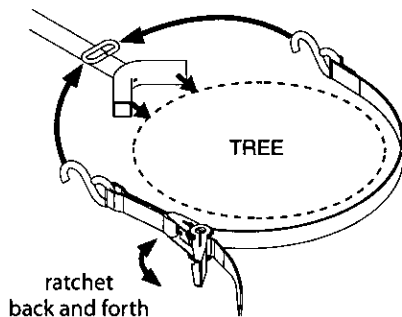

Figure 1: for RE607, RE623, RE624
2. a. Position (2) people at the platform end of the ladder, lift the platform end, and continue uprighting by walking toward bottom end of ladder and moving hands along ladder legs. **Stand ladder up against chosen straight tree on dry, level ground.** Use caution when ladder comes over center against tree.
- d. **(FOR RE607, RE623, RE624 ONLY)** With ratchet strap now in hand, hook "S" hook with long strap to the stabilizer bar link welded on stabilizer bar. Feed the long strap through the center (slot) of ratcheting mechanism and back around through tightening lever. **SEE FIGURES 1 AND 2.** Secure the ladder tight so the stabilizer bar is at a right angle to the tree. Adjust stabilizer bar length as necessary so it contacts tree. Be absolutely sure the tree blade(s) at top and the stabilizer bar are all contacting tree.
Wrap entire ratchet assembly around tree and hook other "S" hook through opposite side of stabilizer bar link. Pull tail of long strap until most of the slack is taken out. Be sure entire strap is even and at the same level all around tree. "Ratchet" tight to tree, this will securely attach stabilizer bar to tree. **SEE FIGURE 1.** Be absolutely sure the tree blade(s) at top and stabilizer bar are all contacting tree.